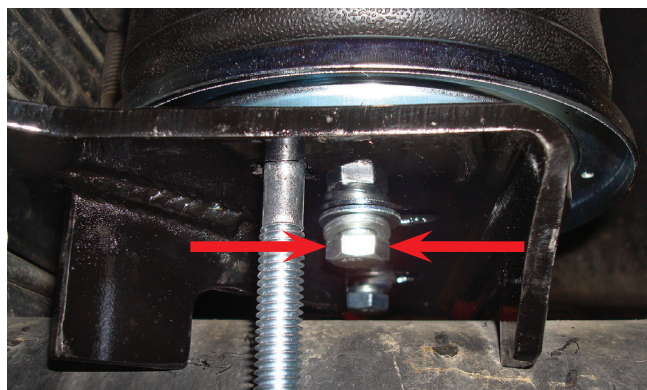

Fig. 19
9. Using the slot in the lower bracket, push the bottom of the air spring in or out to align it so that it is perpendicular (or as perpendicular as possible) to the upper and lower bracket. Torque the lower bracket/air spring hardware to no more than 20 lb.-ft. (27Nm) (Fig. 19).